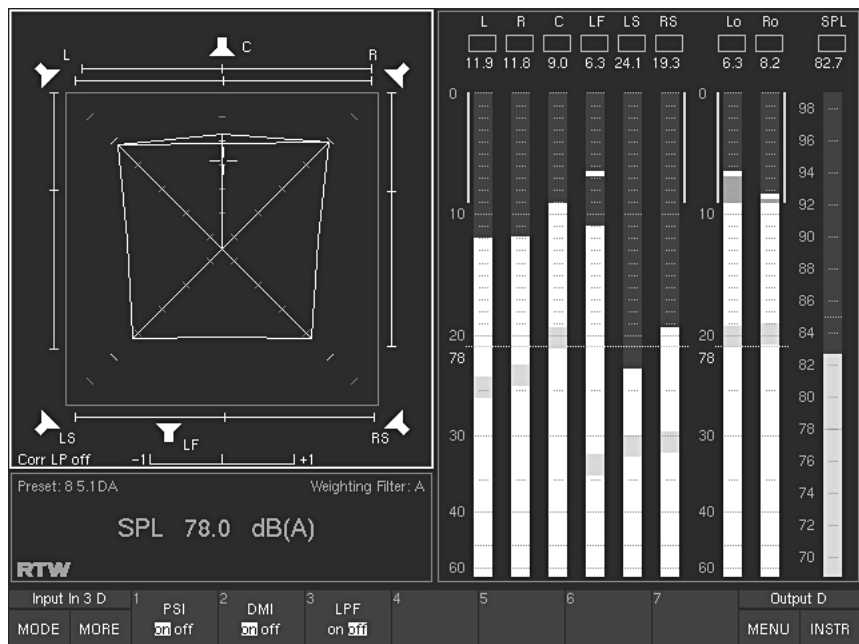

Fig. 3-5: Screen display with SSA instrument selected
(Button/key 1, see Fig. 3-5)
(Button/key 2, see Fig. 3-5)
(Button/key 3, see Fig. 3-5)